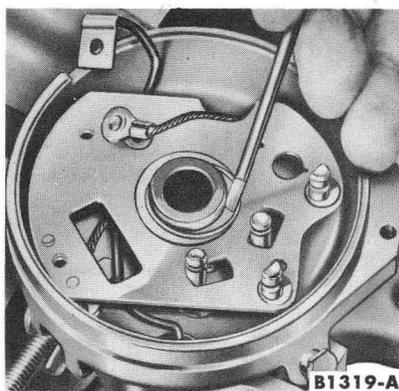

FIG. 5—Lock Ring Removal
12. Remove the lock ring attaching the breaker plate to the bushing (Fig. 5). Lift the breaker plate from the body. Pull the primary wire through the opening in the distribu-